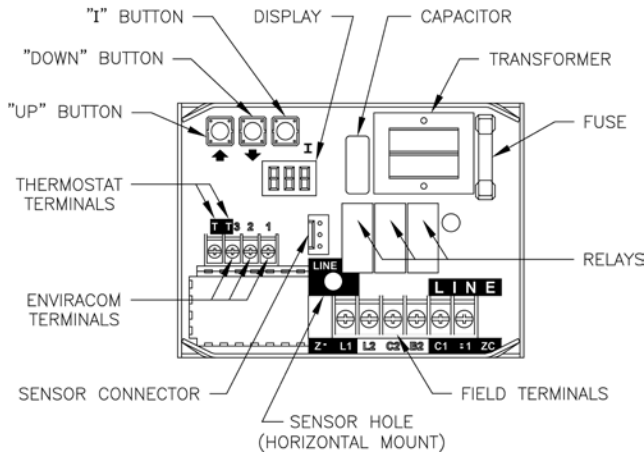

Figure 20: L7248/L7224 Circuit Board Layout - Horizontal Mount
5. ADJUSTING AQUASTAT CONTROLLER SETTINGS. To discourage unauthorized changing of Aquastat settings, a procedure to enter the **ADJUSTMENT** mode is required. To enter the **ADJUSTMENT** mode, press the **UP**, **DOWN**, and **I** buttons (refer to Figure 20) simultaneously for three seconds. Press the **I** button until the feature requiring adjustment is displayed: